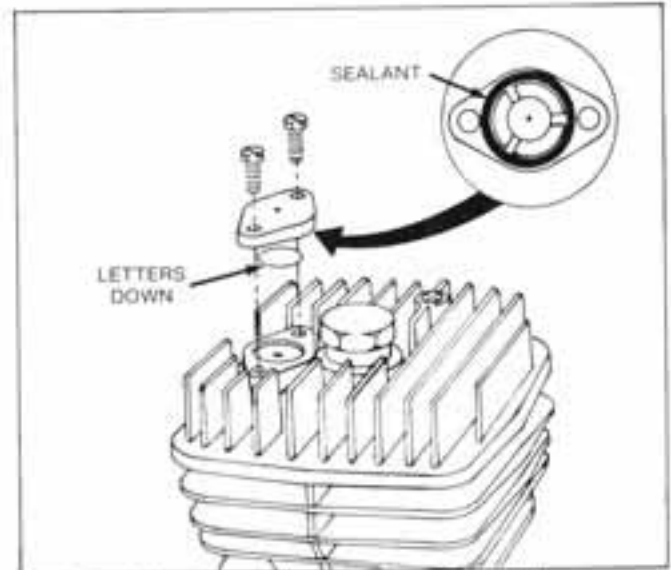

Fig. 10 — Installing Compression Release
Place bi-metallic valve in recess with letters down. Place small band of sealant on cover (avoid excess sealant), Fig. 10. See table I, page 5 for sealants. Torque two (2) screws to 30 in./lbs. (.35 mkp, 3.38 nm).